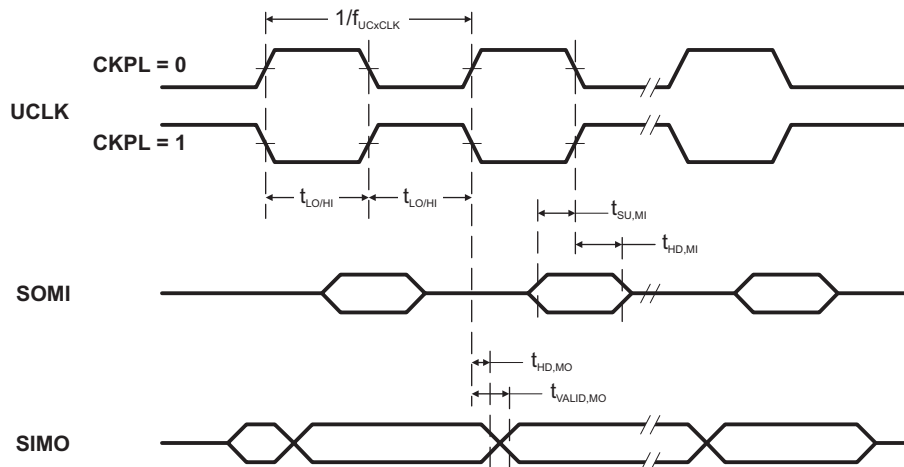
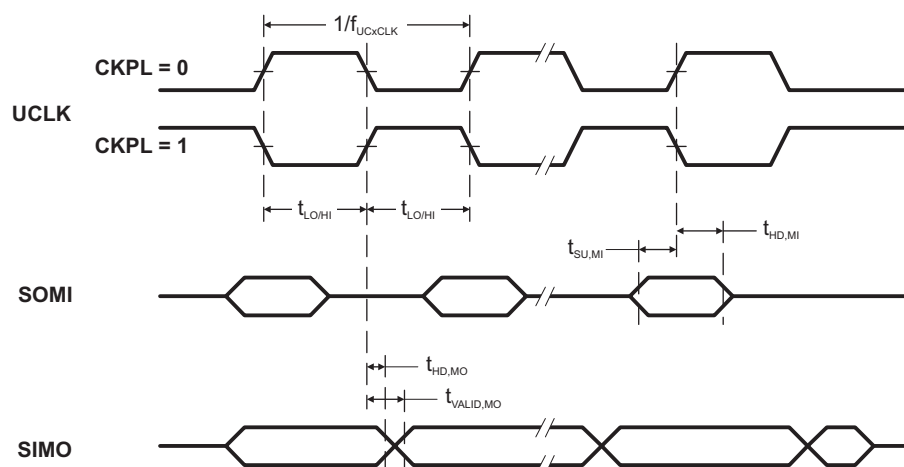

Figure 11. SPI Master Mode, CKPH = 0
Figure 12. SPI Master Mode, CKPH = 1
(see Note ⁽¹⁾, Figure 11 and Figure 12)
- (1) f_{UCXCLK} = 1/2(t_{LO/Hi} with t_{LO/Hi} ≥ max(t_{VALID,MO(USCI)} + t_{SU,SI(Slave)}, t_{SU,MI(USCI)} + t_{VALID,SO(Slave)}). For the slave's parameters t_{SU,SI(Slave)} and t_{VALID,SO(Slave)} see the SPI parameters of the attached slave.
- (2) Specifies the time to drive the next valid data to the SIMO output after the output changing UCLK clock edge. See the timing diagrams in Figure 11 and Figure 12.
- (3) Specifies how long data on the SIMO output is valid after the output changing UCLK clock edge. Negative values indicate that the data on the SIMO output can become invalid before the output changing clock edge observed on UCLK. See the timing diagrams in Figure 11 and Figure 12.
- (2) Specifies the time to drive the next valid data to the SOMI output after the output changing UCLK clock edge. See the timing diagrams in Figure 11 and Figure 12.
- (3) Specifies how long data on the SOMI output is valid after the output changing UCLK clock edge. See the timing diagrams in Figure 11 and Figure 12.